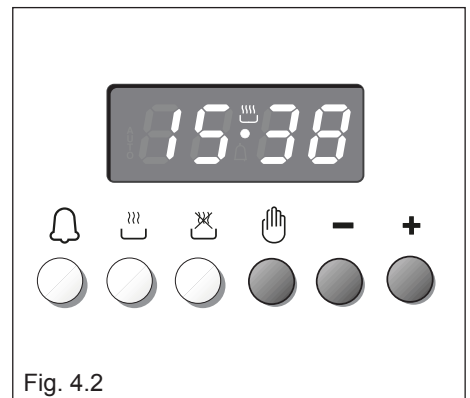

Fig. 4.2
**ELECTRONIC CLOCK** (fig. 4.2)
To set the hour it is necessary to push the  button and then the **+** or **-** button until you have set the exact hour (fig. 4.2).